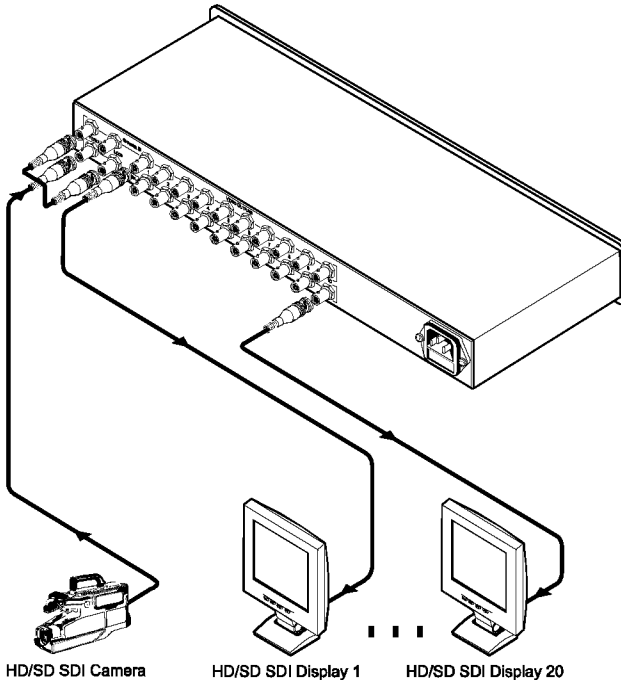

Figure 2: Connecting the VM-20HD Dual 1:10 HD/SD - SDI Distribution Amplifier
To connect the VM-20HD, as the example in *Figure 2* illustrates, do the following¹:
4. Connect the power cord (not illustrated in *Figure 2*).